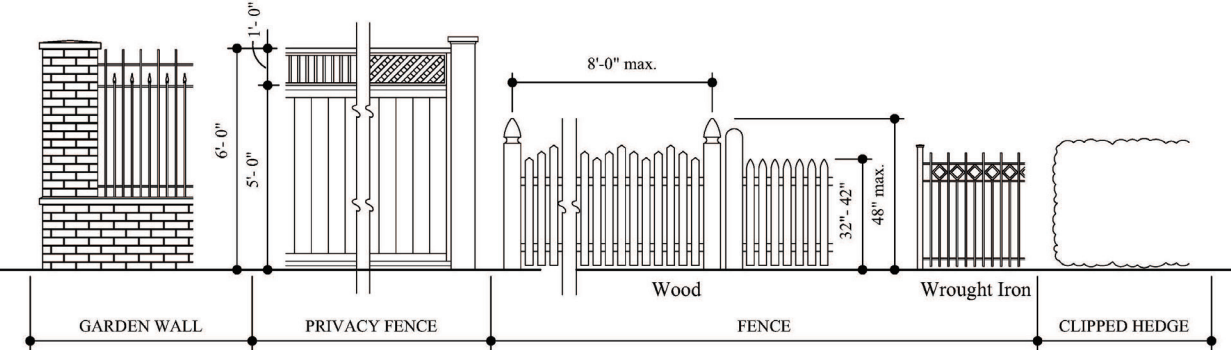

Figure 33
- » Rear-yard privacy fences shall be a maximum of 6’ in height, including any top lattice or spaced picket portion. See Figure 33.